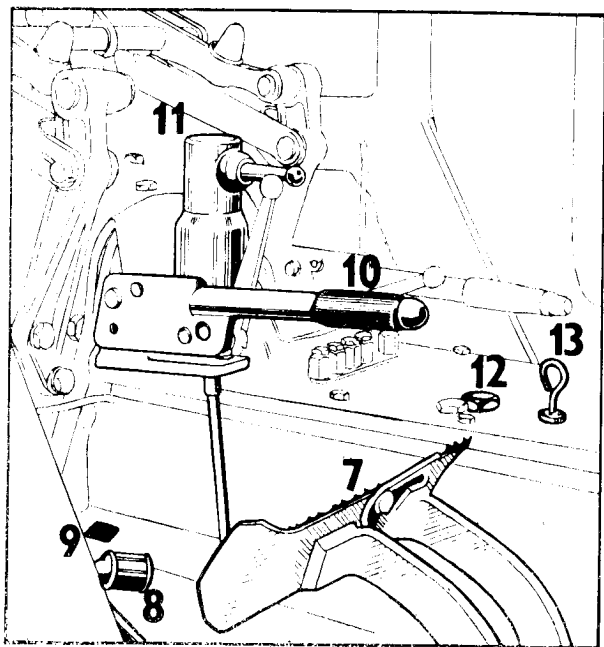

Fig. 5
When changing PTO exchangeable end pieces (Fig. 5/11) from 540 RPM (1000 RPM) to 1000 RPM (540 RPM) and vice versa it is necessary to put the PTO revolutions control lever in its neutral position and only then change the PTO end part. This operation being carried out, 1000 RPM (540 RPM) of the PTO can be engaged again.
7. Foot brake pedals are connected by means of a catch (Fig. 5/7).
8. Accelerator pedal (Fig. 5/8).
9. Differential lock pedal (Fig. 5/9).
10. Hand brake control lever (Fig. 5/10) — its bottom position means that the hand brake is unbraked, its top position — braked.
13. Oil filling orifice of the gearbox and the final drive housing (Fig. 5/12).
14. Oil dipstick for checking the oil level in the gearbox and the final drive housing (Fig. 5/13).